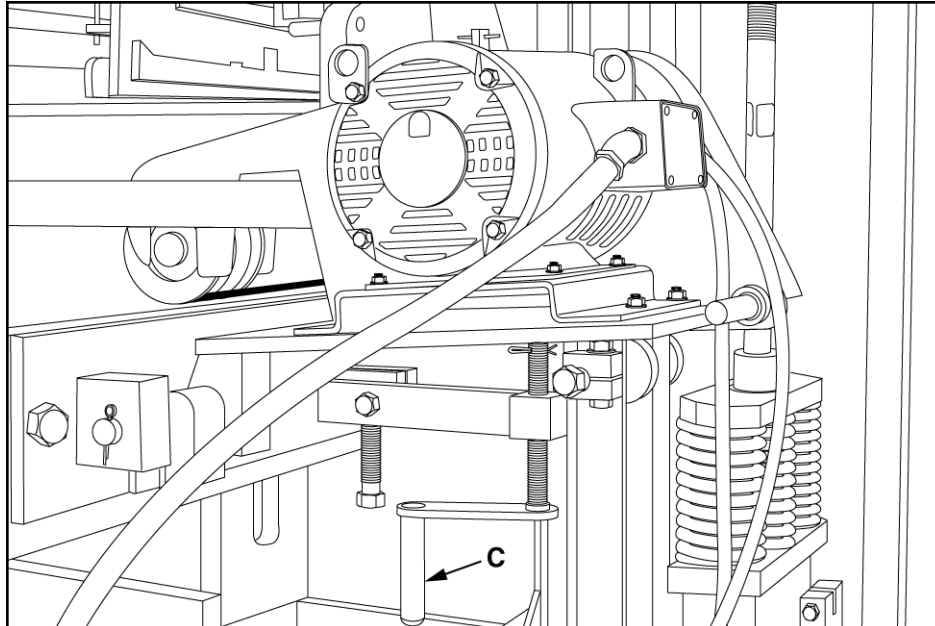

Figure 5.5 RAISING THE VIBRATOR MOTORS WITH SCREW JACK (C)
- 5.3.23 Raise both vibrator motors with screw jacks (C) (see figure 5.5).